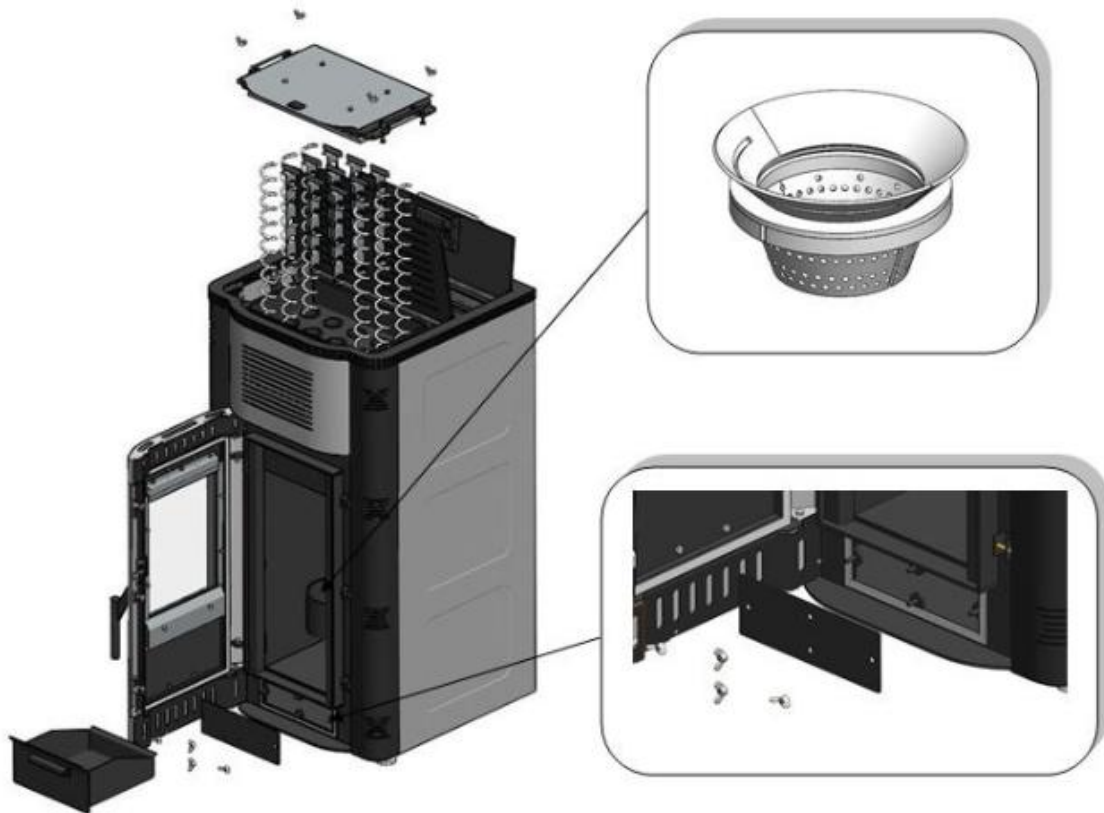

Figure 26. View of elements that are dismantled during the cleaning
- In every 3 to 7 days it is necessary to clean the space of combustion chamber (**figure 26**). Also it is necessary to clean the deposits on the walls of the firebox. By this we provide a better transfer as one millimeter layer of tar and soot decreases the conductivity by 5%.
- Once in a month it is necessary to open the top cover for cleaning, turbulators and then from the whole area of the boiler the tar and soot should be removed (**figure 26**). All that is removed in this way, can be collected and taken away through lower openings. Also during that period the inspection holes of the flue channels should be opened, which also need to be cleaned from soot and tar deposits, as well as from the ashes.